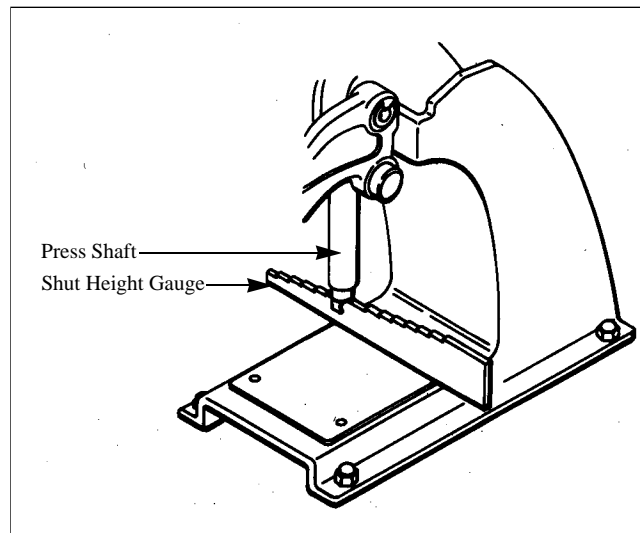

Figure 2
Adjust the shut height setting (see Figures 2 through 4).
1. Place the shut height gauge, 3436-1A, across the press base. (See Figures 2 and 3)
2. Lower the handle of the press until the handle casting makes contact with the press casting. (See Figure 2)